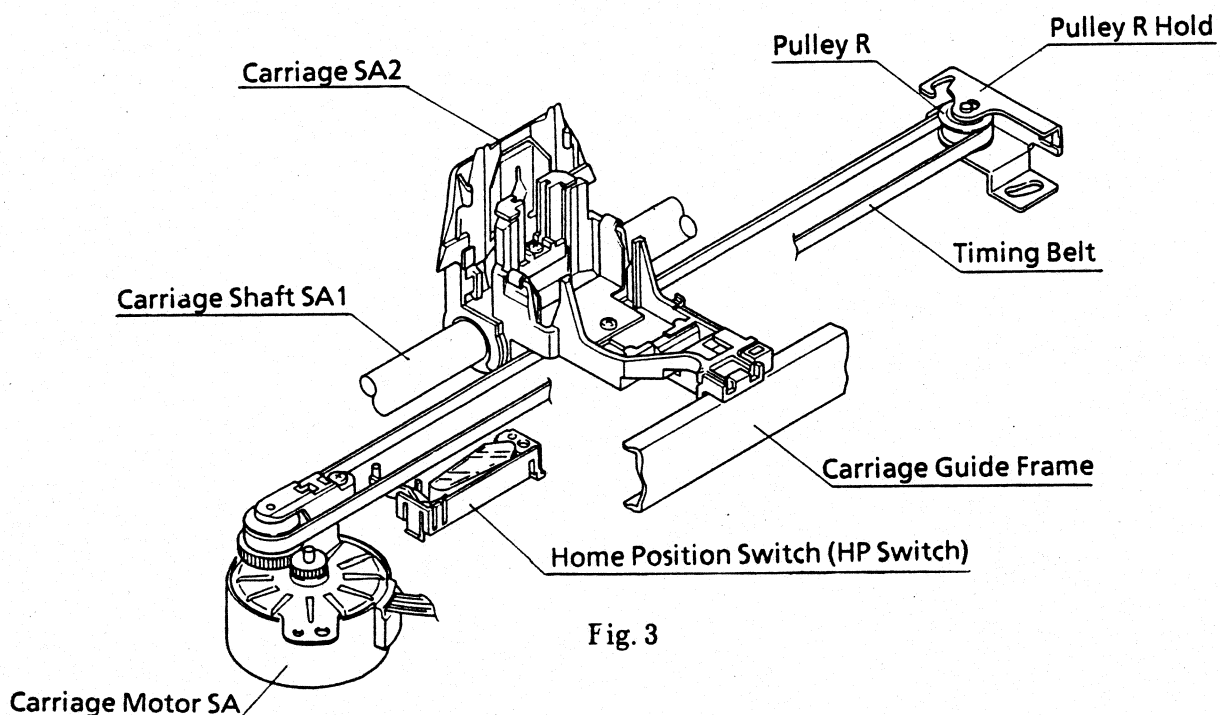

Fig. 3
(1) Mechanism and operation (See Fig.3)
(2) Carriage return operation (See Fig.3)